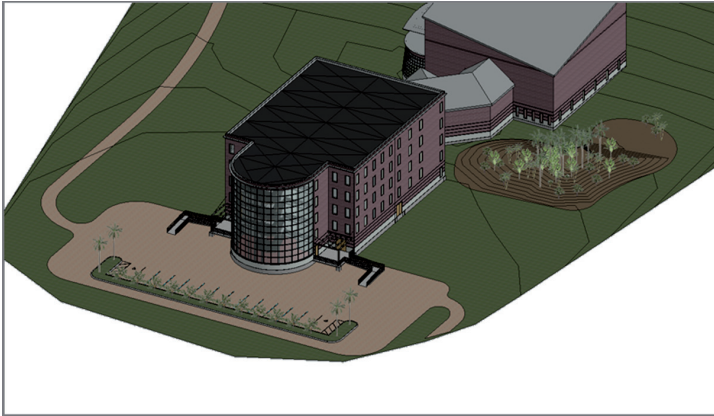

FIGURE BC3.18: Adding the plantings
6. Go to a 3D view and check it out, as shown in Figure BC3.18.
2. Pick a point to the outside of the toposurface, labeled 1 in Figure BC3.18.
3. Pick a second point near the building, labeled 2 in Figure BC3.18. After you pick the second point, the contours are labeled.